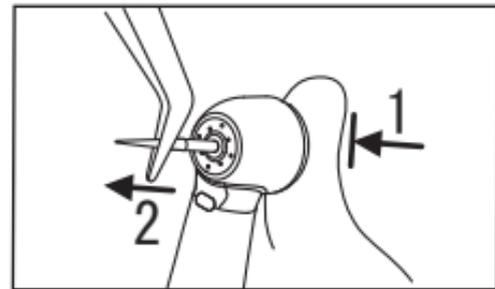

Fig. 8
Depress the push button to open the chuck (1) and remove the bur (2) (Fig. 8).